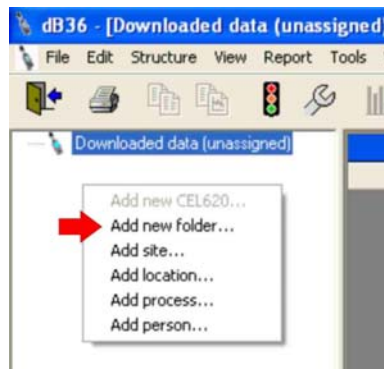

Figure 14 Add a New Folder
1. ADD A NEW FOLDER (Refer to Figure 14)
- (A). Right click anywhere in the blank space below the CEL-6X0 icon and select 'Add new folder'.